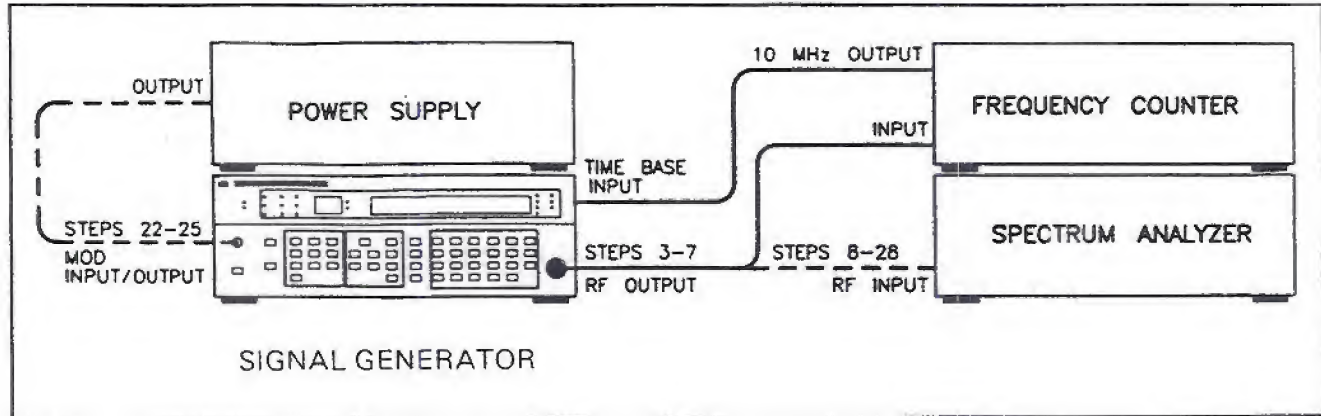

Figure 3-3. Test Setup for Basic Functional Checks
8. Connect the RF OUTPUT of the Signal Generator to the input of the spectrum analyzer as shown in Figure 3-3.
24. Connect a power supply to the MODulation INPUT/OUTPUT Connector of the Signal Generator as shown in Figure 3-3. Set the power supply for a +1 Vdc output and switch the voltage line on. Notice the LO EXT annunciator will remain on. The carrier frequency displayed on the Spectrum Analyzer should move three divisions to the right. The carrier frequency is offset by 60 kHz.